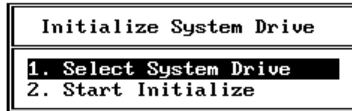

Figure 2-25. Initialize System Drive Menu
2. Choose **Select System Drive** from the Initialize System Drive menu (Figure 2-25).